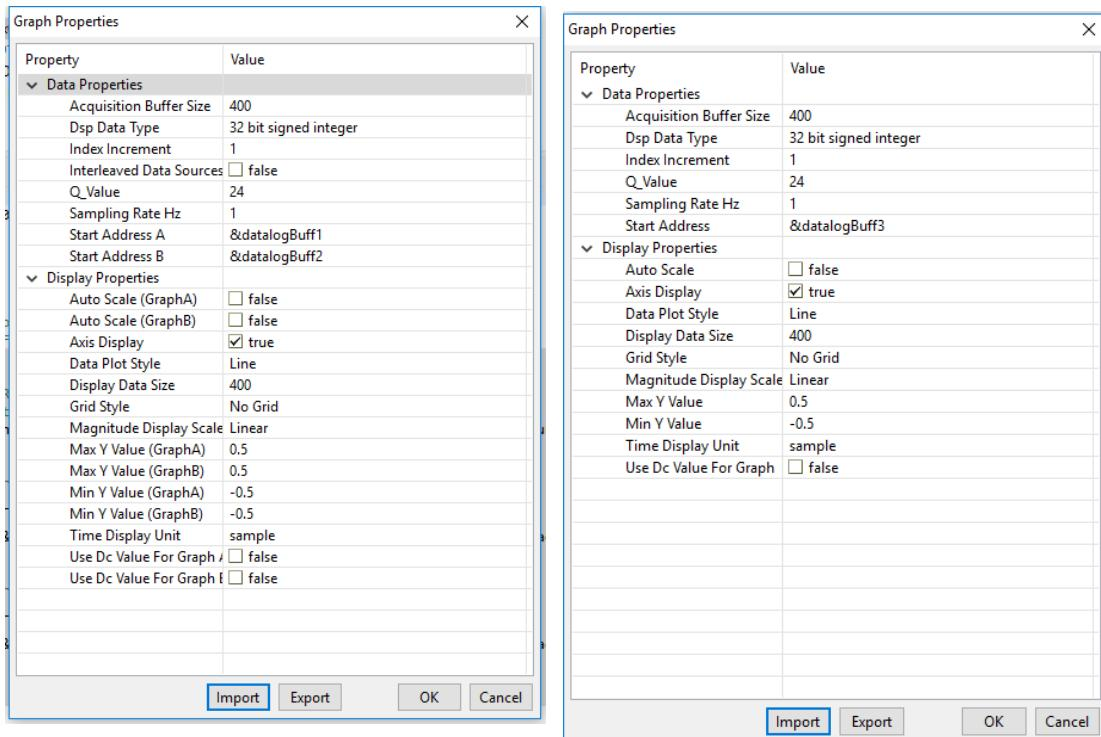

Figure 7 Graph Tool Properties Configuration
Setup the graph window as instructed in the following steps, as well as in the menu shown Figure 7
Step 3a. Connect inputs of the datalog module; the datalog graph for SVGEN output is shown in Figure 7